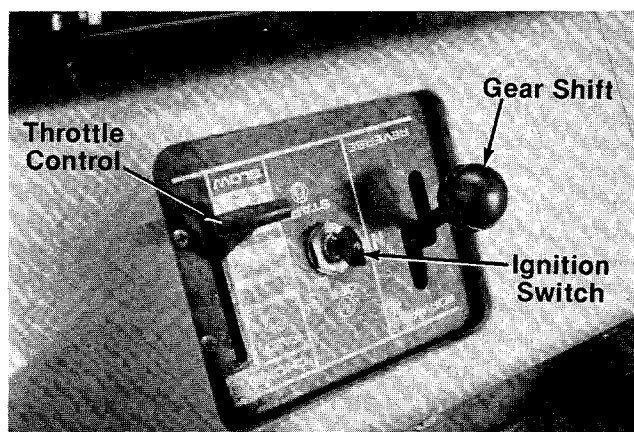

FIGURE 17.
The throttle control is used to regulate the engine speed and choke the engine. The engine should be operated from 3/4 to full throttle when operating the cutting deck. See figure 17.
Electric Start Model—The key must be turned to the “START” position to start the engine. After the engine is running, let the key return to the “ON” position. Turn the key to the “OFF” position to stop the engine. Remove the key when the rider is not in use. See figure 17.
The shift lever is located on the left hand side of the console and has three positions, “FORWARD,” “NEUTRAL” and “REVERSE.” See figure 17. The clutch-brake pedal must be depressed and the riding mower must not be moving when shifting gears. Do not force the shift lever. Release the clutch-brake pedal slightly to line up the shifting collar in the transmission. Then try to shift gears.
b. **Electric Start Model.** Turn the ignition key to the "START" position. As soon as the engine starts, let the key return to the "ON" position. See figure 17.